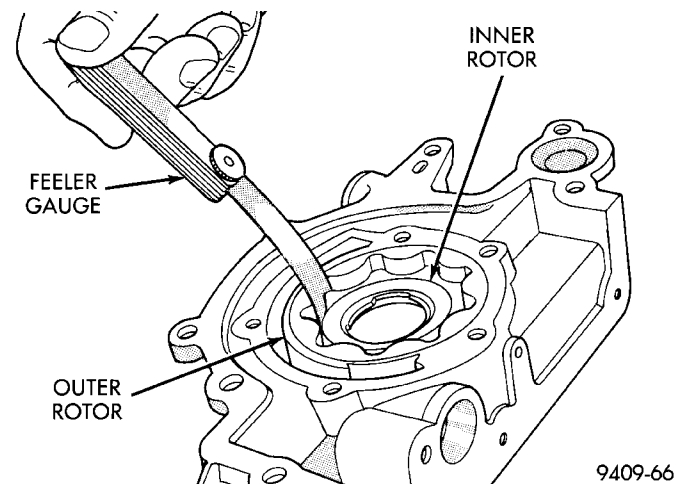

Fig. 105 Measuring Clearance Between Rotors
(6) Install inner rotor into pump housing. If clearance between inner and outer rotors (Fig. 105) is .203 mm (.008 inch) or more, replace both rotors.